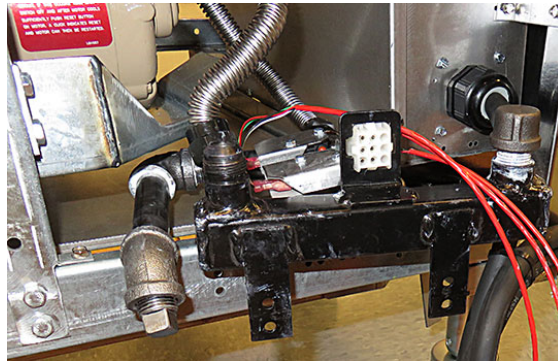

Figure 14
18. Carefully insert the waste oil manifold as shown into the rear of the fryer, ensuring the valve handle is inserted into the fryer first (see Figure 14). Do not secure the assembly yet.